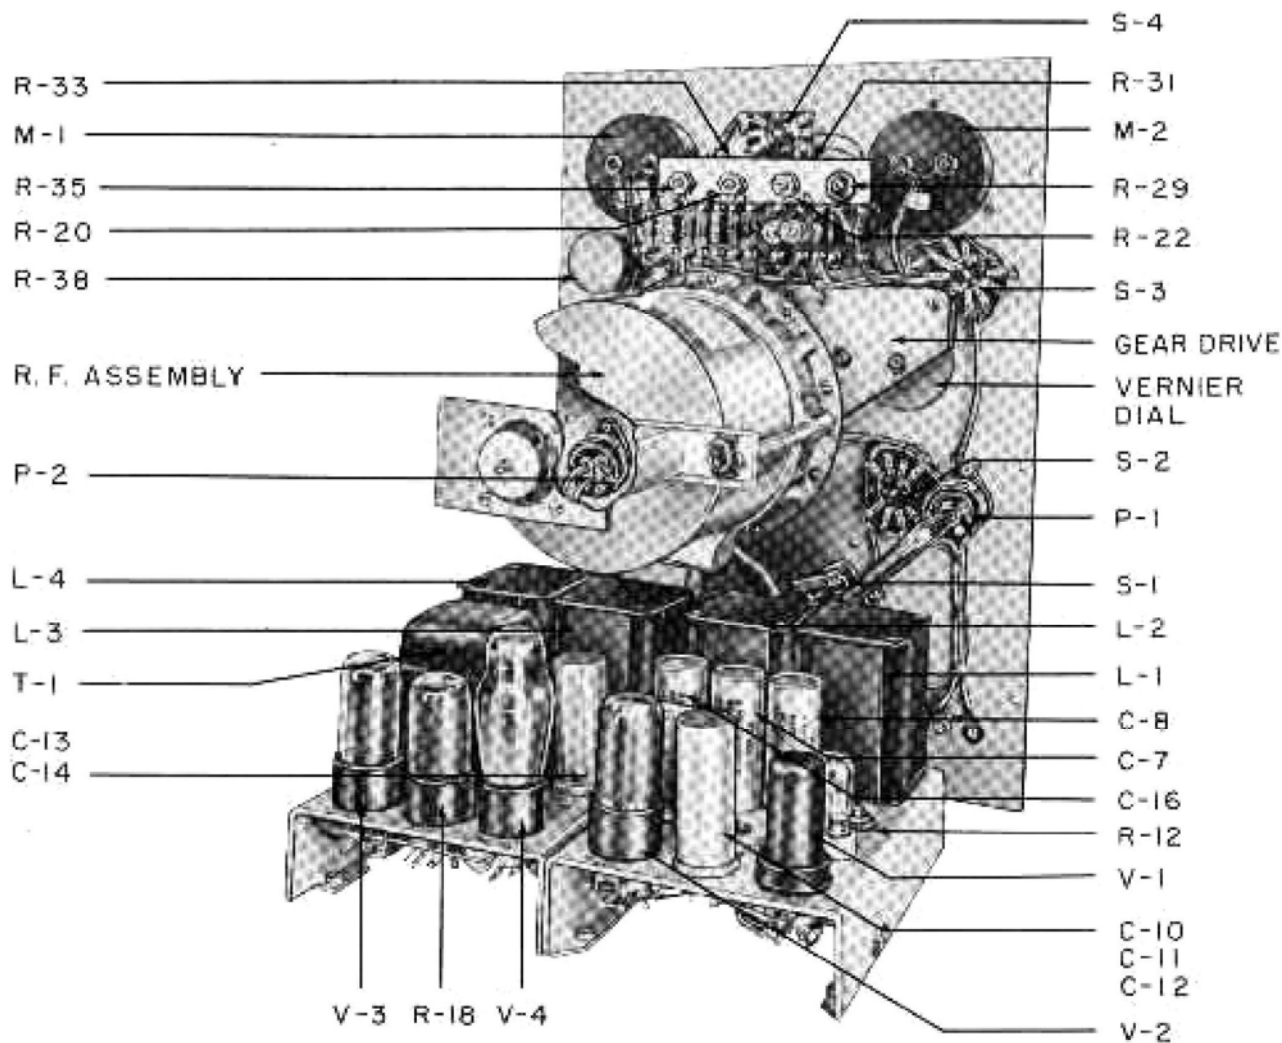

Fig. 6. Rear View of Panel Assembly, Power Supply, and Audio Oscillator
a. RF UNIT (Fig. 6).
The 60 cycle heater voltage between pin 5 of plug P-2 and ground (fig. 6) should measure 6.3 volts. If the RF unit is found to be inoperable and this voltage measures in excess of 7 volts, the trouble is probably due to an open heater circuit at one of the RF tubes. Continued operation of the instrument under this condition will damage the other RF tubes.
If desired, the degree of amplitude modulation on the modulation meter can be checked by suitably mixing the output of the generator with another signal source such that a difference frequency of approximately 100-150 kc is produced. This difference frequency can be observed visually on a cathode ray oscilloscope and used for adjustment purposes. Adjustment of R35 (fig. 6) will change the modulation meter AM sensitivity to agree with that degree of modulation present.
The FM deviation indicated on the modulation meter is controlled by the setting of R29 (Fig. 6). A slight adjustment of this control may be made if desired, however the actual deviation sensitivity of the reactance modulator is adjusted by means of R47 (Fig. 8) within the RF shield, and should not be disturbed.